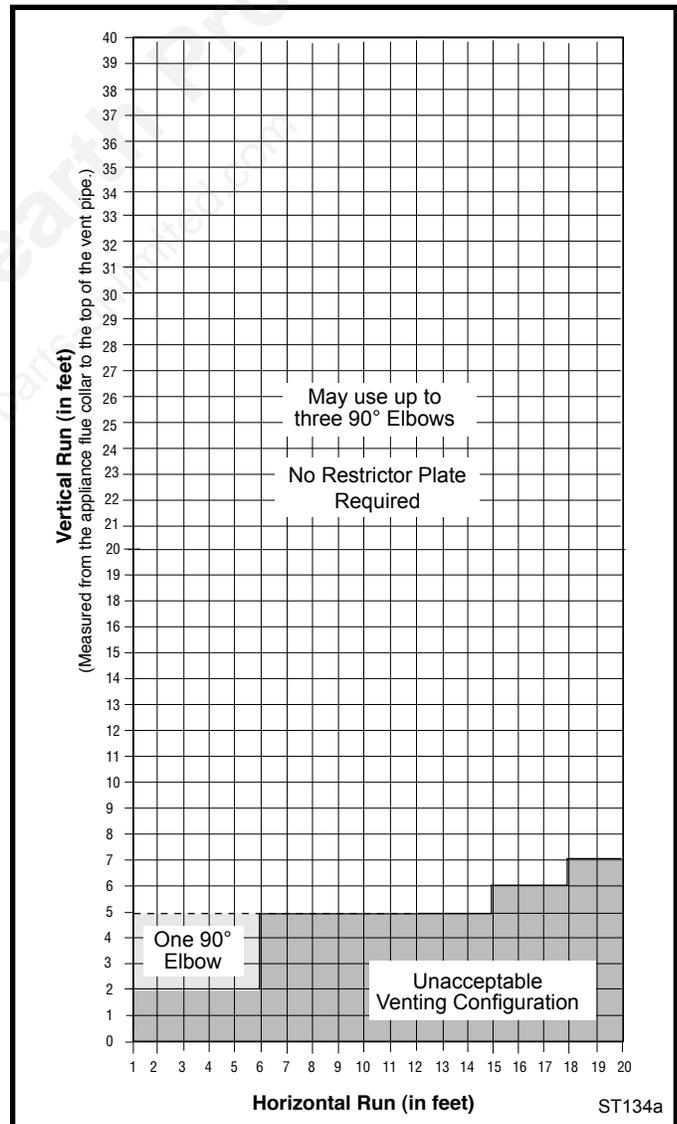

Fig. 7 Horizontal vent termination window.
The vent must rise vertically a minimum of 24" (610 mm) off the top of the unit, before the first elbow. The horizontal run may extend up to 20' (6m) and include a vertical rise of up to 40' (12 m). (Fig. 7) Horizontal termination must also meet the criteria shown in Figures 10 through 12.
- Approved vent systems must terminate above and including the heavy line in Figure 7.